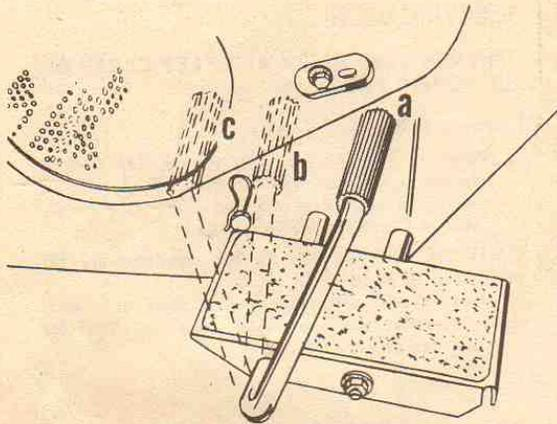
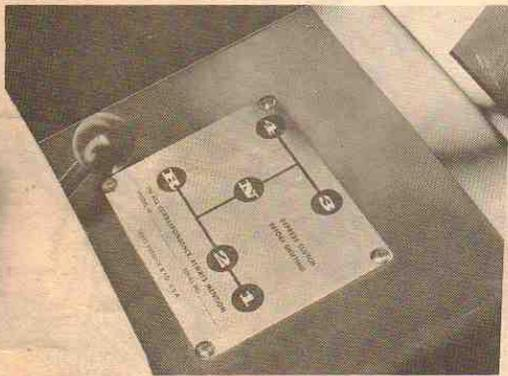
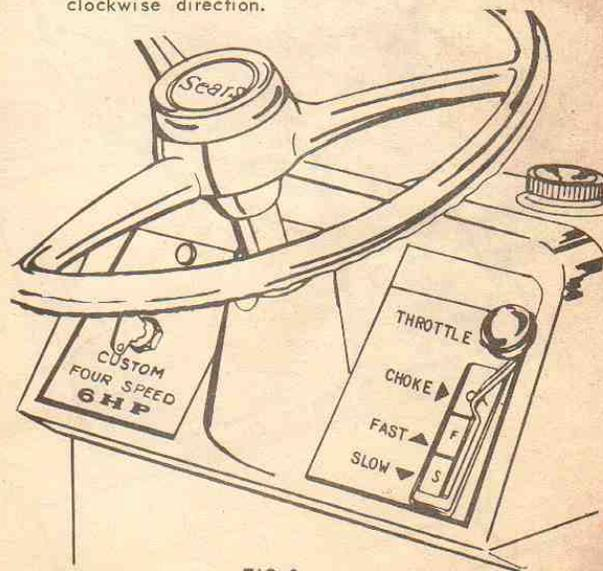
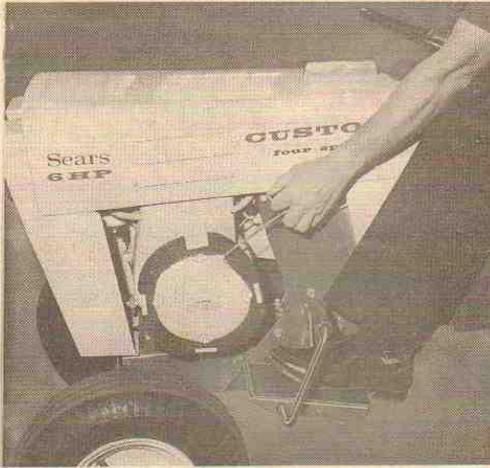

FIG. 5
FIG. 6
FIG. 8
FIG. 9
1. The Drive, Clutch and Brake pedal is shown in Fig. 5. This pedal operates a combination brake and drive clutch. There are three positions of operation:
2. The Transmission gear shift lever is located at front center of seat. Refer to Fig. 6.
1. Transmission gear shift lever, refer to Fig. 6, is in NEUTRAL. In Neutral the gear shift lever is free to move forward and backward. It will operate similar to an automobile.
3. To start a cold engine, move throttle lever to Choke position, refer to Fig. 8.
2. Refer to Fig. 9. Turn key in ignition switch clockwise to "on" position.
4. After engine starts, move throttle lever to fast position; refer to Fig. 8.
2. Refer to Fig. 9. Turn key in ignition switch clockwise to engage starter. When engine starts, release key and move throttle lever, refer to Fig. 8, to fast position.
2. Start the engine and put the throttle lever in the SLOW position, refer to Fig.8. Push down on foot pedal, refer to Fig.5, and move gear shift lever, Fig.6, to speed desired. Gradually let up on foot pedal. DO NOT SHIFT GEARS WHILE TRACTOR IS MOVING.